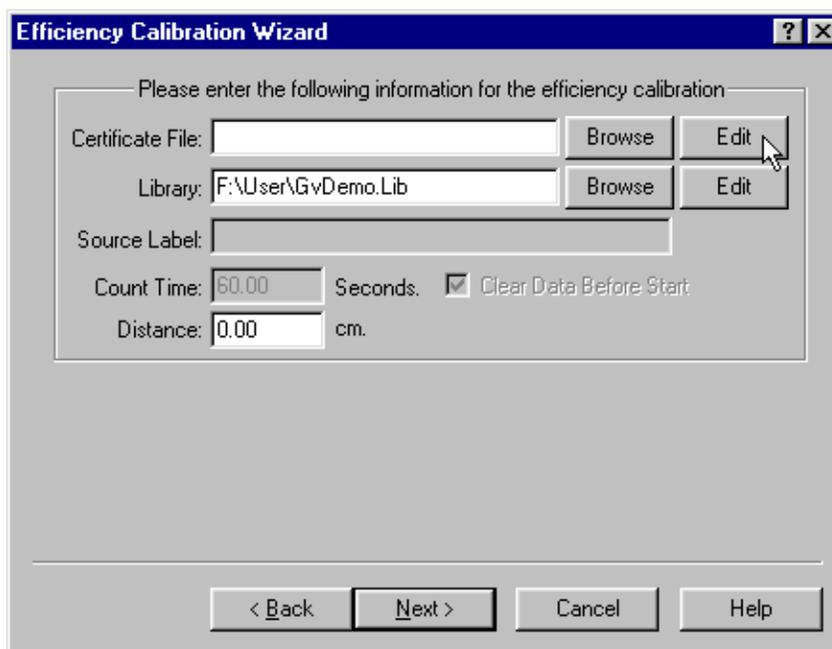

Figure 43. Click Edit to Open a Blank Certificate File Editor.
- 5) The Efficiency Calibration Wizard screen (Fig. 43) will open. If necessary, browse for the proper **Library** file. Next, click the **Edit** button beside the **Certificate File** field.